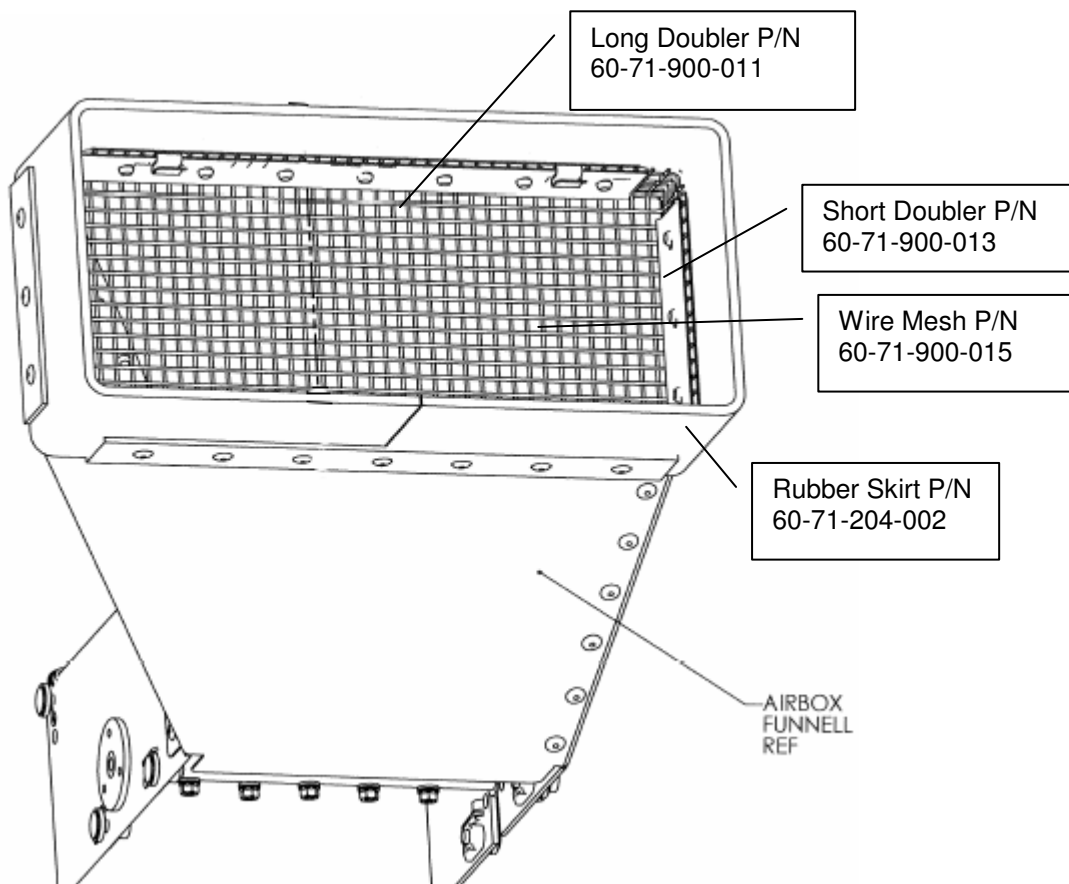

Figure 1: Repair for Air Box – Doubler for Wire Mesh.
- 3.3 Refer to drawing 60-71-900 and figure 1 below.